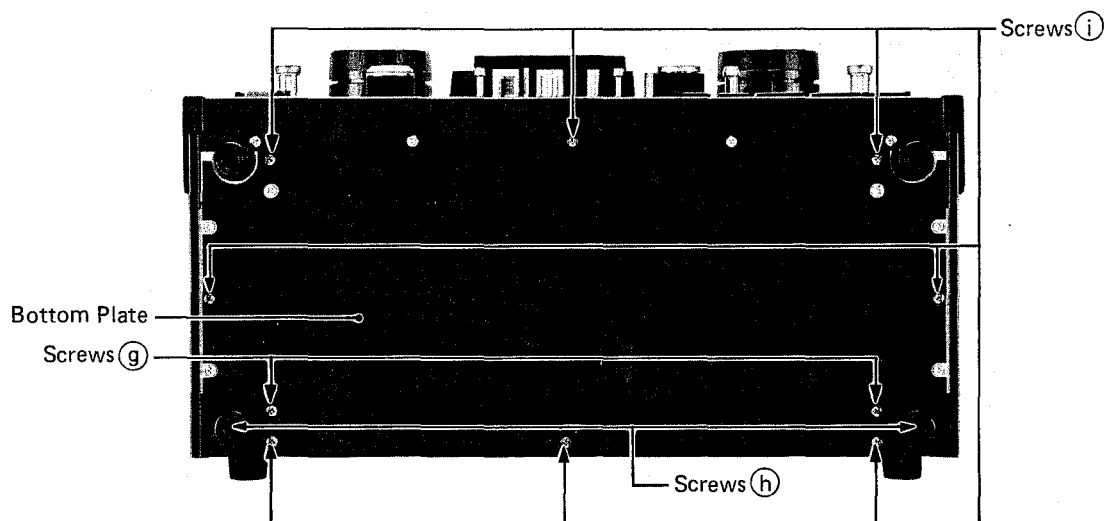

FIG. 9. BOTTOM VIEW
3. Remove the two "g" screws shown in Fig. 9, and loosen the "h" screws to remove the feet.
To remove the bottom panel remove the eight "i" screws shown in Fig. 9.